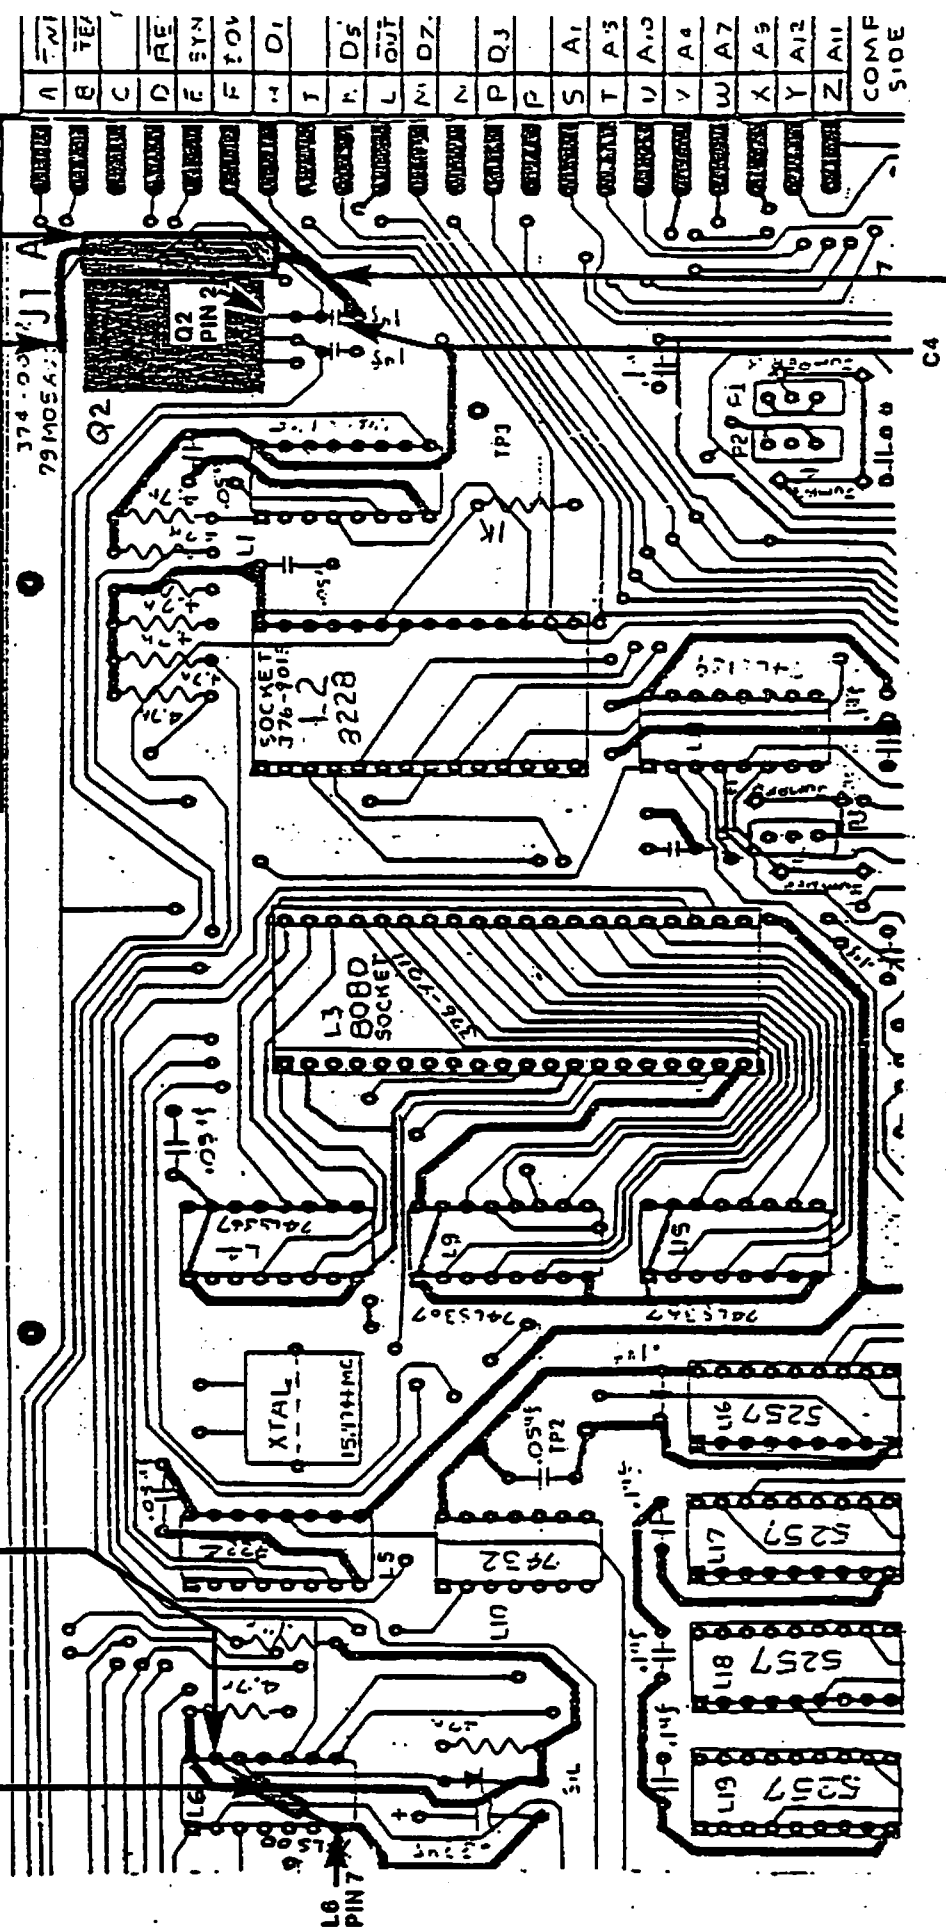

FIGURE 1 210-7591-A PCB ASSY, CAP LOCATIONS
- C. Refer to Figure 1. Solder a 390 pf cap (300-1390) from L6 pin 13 to ground at L6 pin 7 on 210-7591-A PCB assembly.
- 1. Solder the negative lead of the 30 uf cap (300-3009) to the etch leading to Q2 pin 2 as shown in Figure 1.
- 2. Solder the positive lead of the 30 uf cap (300-3009) to the negative lead of C4 and to the etch leading to same as shown in Figure 1.